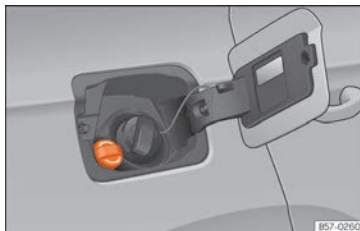

Fig. 219 AdBlue tank cap.
- Open the tank cover »» Fig. 219.
- Turn the bottle in a counter-clockwise direction and gently pull it upwards »» ❶.
- Turn the SCR tank cap anti-clockwise »» Fig. 219.